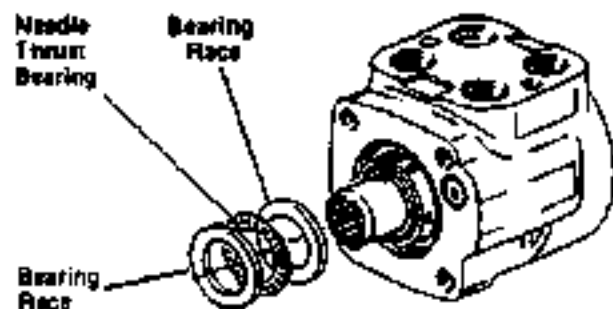

Figure 8
12. Rotate spool and sleeve until pin is horizontal. Push spool and sleeve assembly forward with your thumbs just far enough to free gland bushing from housing, see Fig. 8. Remove bushing.